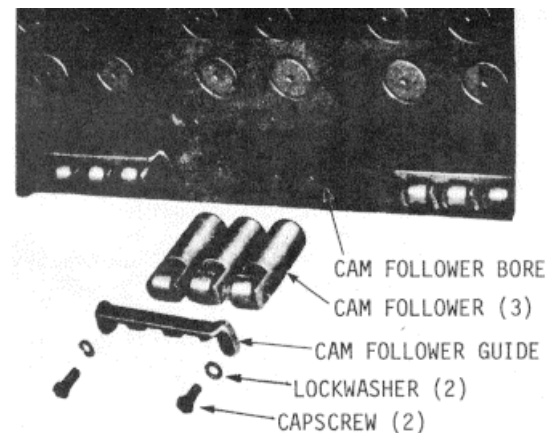

Fig. 3
- (1) Rest the cylinder head on its side (Fig. 3) and remove the cam follower guide.
- (2) Pull the cam follower out of the cylinder head.
- (3) Remove the fuel pipes from the injector and the fuel connectors.